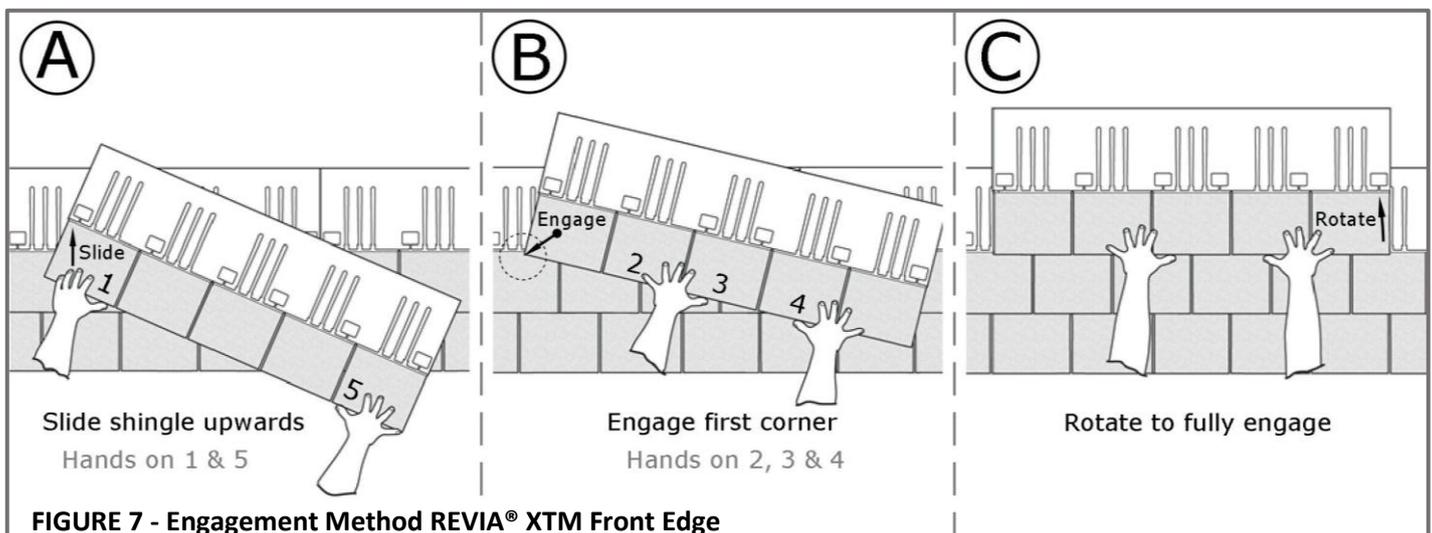

FIGURE 7 - Engagement Method REVIA® XTM Front Edge
- Engage Course #1 Front Edge Lock into starter Nail Line. Follow steps A, B and C. See **Figure 7**.